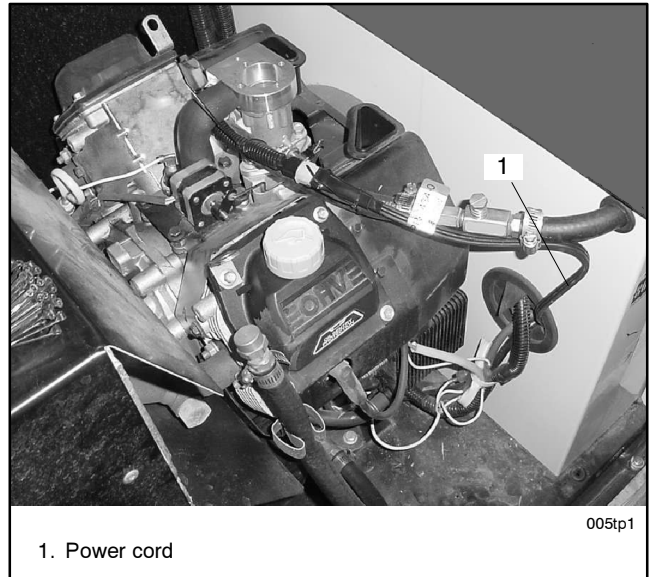

Figure 14 Routing the Power Cord
- 7.1 Route the power cord along the fuel line and down through the opening into the air intake area/battery compartment. See Figure 14.